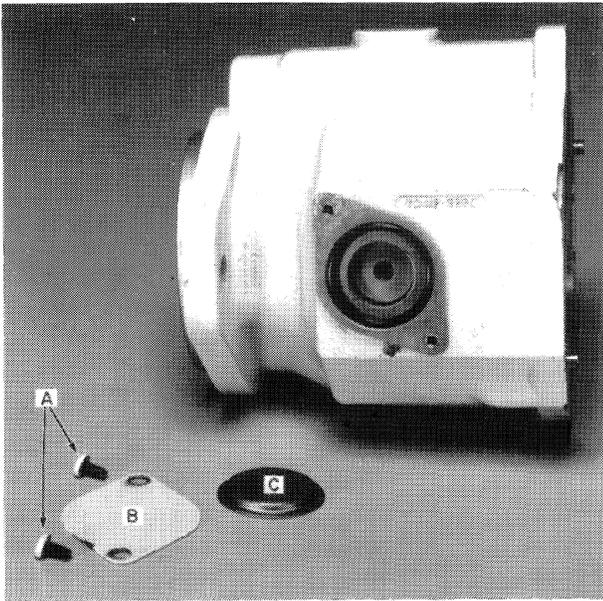
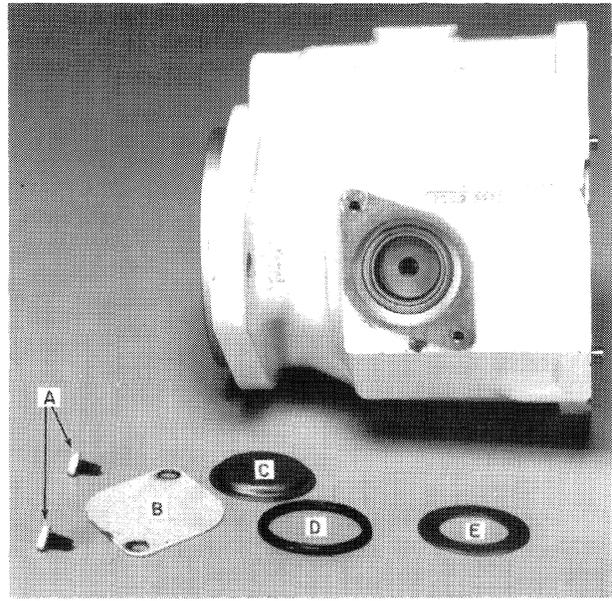
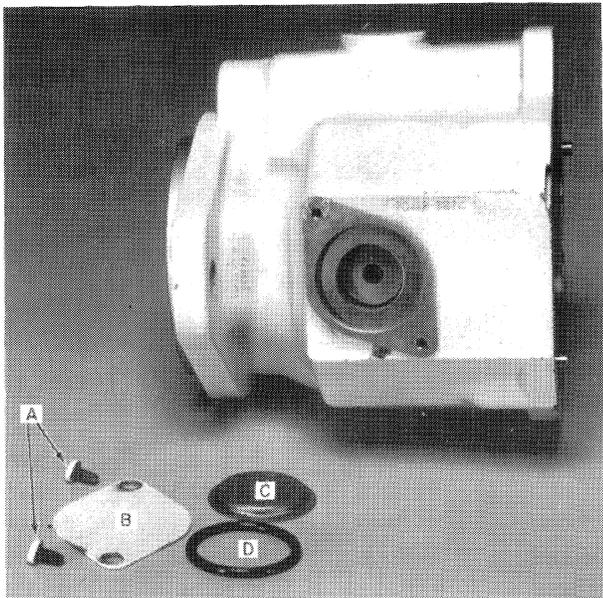

FIGURE 4-9
FIGURE 4-11
FIGURE 4-10
b. Remove O ring cover, C, Figure 4-9, O ring, D, Figure 4-10, and washer, E, Figure 4-11.